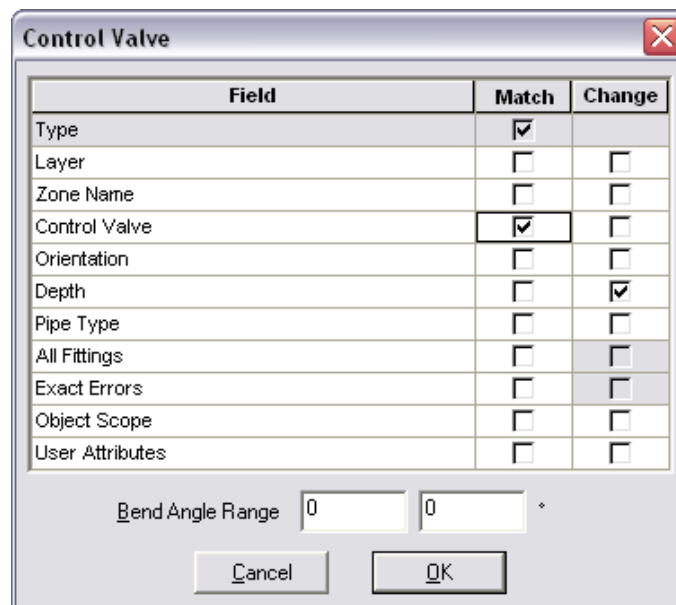

Figure CS 4
5. In this case it doesn't matter if you match the valves or not as all three are the same. Make sure the "Change" "Depth" is checked before clicking [OK] as in Figure CS 4. The Status bar should say 3 matched.